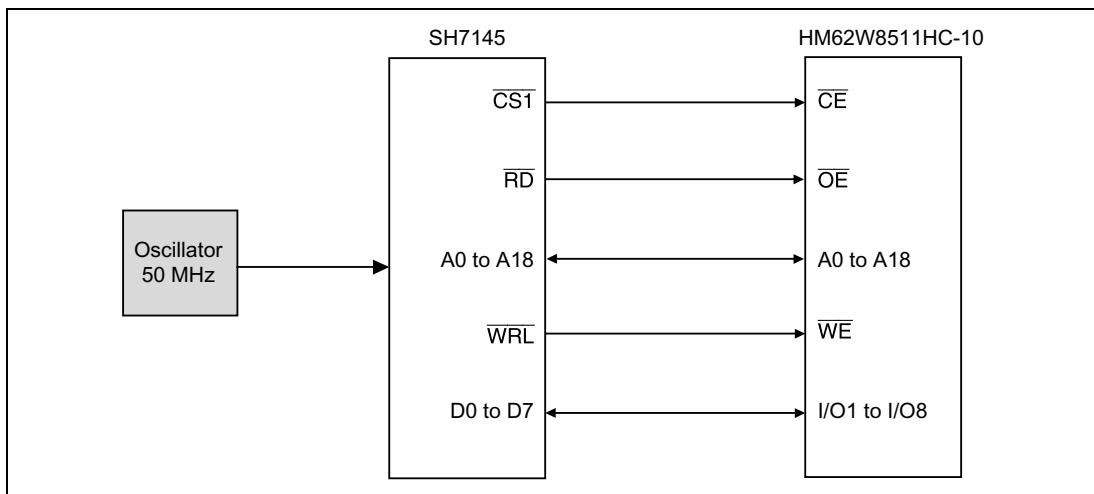

Figure 2.1 SH7145 and HM62W8511HM-10 Connection Block Diagram
(1) SH7145 mode 2 (on-chip ROM-enabled expansion mode) is used to interface with 4 Mbits (512 kbits × 8) of SRAM (HM62W8511HC-10) as shown in figure 2.1.